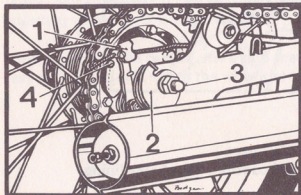

Fig. 17
When it is no longer possible to adjust the brakes by means of the adjusting screws on handlebars, adjust the tension of the brake bowden cables on brake cams (Fig. 16 and Fig. 17), and then correct the adjustment using the adjusting screws on the handlebars.
Adjust the engine chain slack after loosening the rear wheel spindle nut (3, Fig. 17). By moving the chain tensioner (2) on both sides of the frame adjust the tension of the chain so that it sags 15 mm under thumb pressure. After having adjusted the chain slack, it is necessary to check the track of the wheels (alignment of wheels) using a straight lath. Do not forget to retighten the wheel spindle nut.